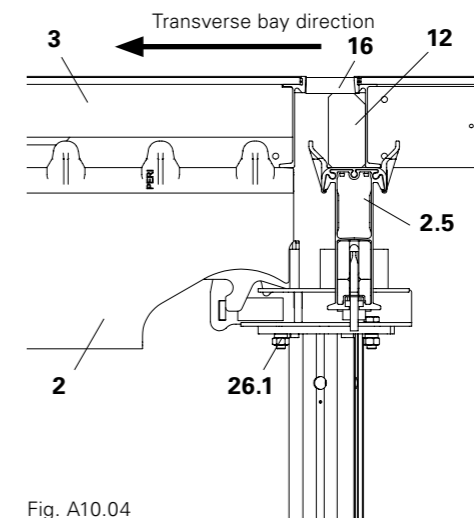

Fig. A10.04
5. If a gap occurs with the Panel SDP between the transverse bay direction and main bay direction, this is closed using filler timber (12) and filler plate (16). (Fig. A10.04)